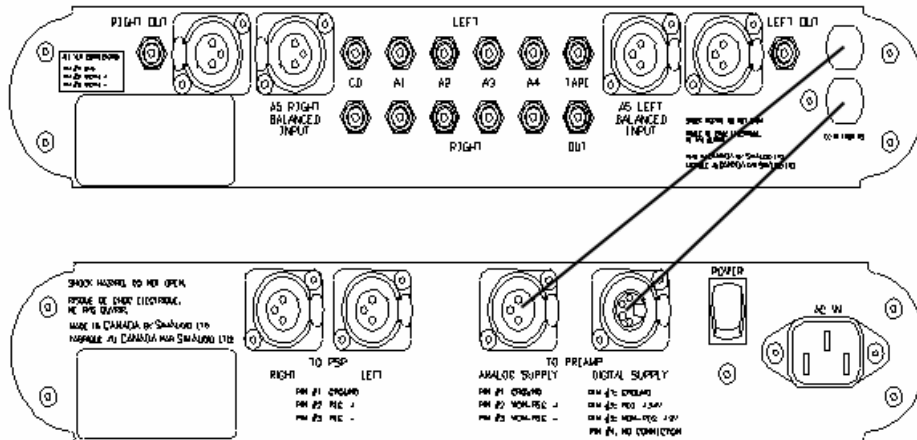

Figure 3: Connecting the Moon P-5 (top) to the PS-5 Power Supply (bottom)
1. There are two connections that must be made between the **P-5** preamplifier and its separate **PS-5** power supply as shown above in Figure 3; One for digital controller circuitry and one for the analog audio circuitry. These cables are hard-wired directly to the **P-5** and must be connected to the **PS-5** via the XLR terminated connectors. To avoid any confusion, the “Analog Power Supply” uses a 3-pin connector (black colored shield) and the “Digital Power Supply” uses a 4-pin connector (silver colored shield). You will notice two additional XLR sockets on the left side of the **PS-5** labeled “TO PSP”; These are to be used **ONLY** with the **optional MOON PSP** Phono Section.